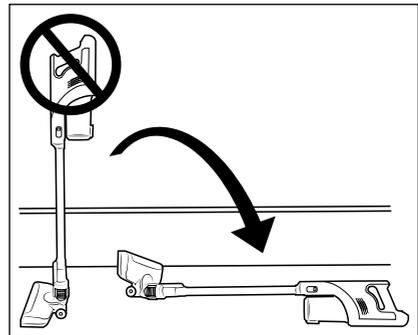

Fig. 9
- ▶ Do not try to place the vacuum cleaner upright when you want to put it down or take it out of your hand in the meantime. To do this, place the vacuum cleaner in the wall bracket **13** or lay it on the floor (see Fig. 9 and 10). Due to its high centre of gravity, the vacuum cleaner may otherwise tip over and be damaged and possibly damage other objects when tipping over.